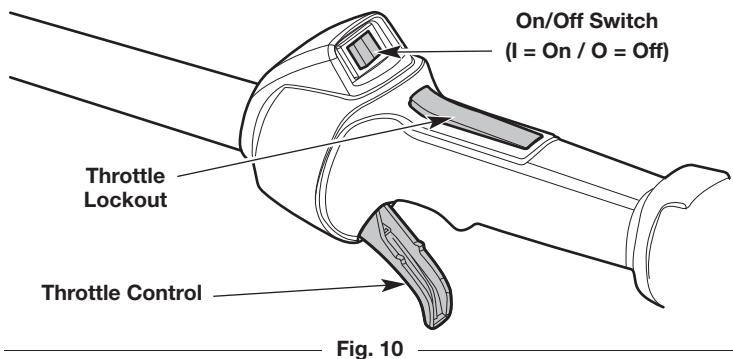

Fig. 10
NOTE: There is no need to turn the unit on. The On/Off switch is in the **On (I)** position at all times (Fig. 10).
NOTE: DO NOT squeeze the throttle control until step 8 (Fig. 10).
8. Press and hold the throttle lockout (Fig. 10). Squeeze the throttle control as needed for operation (Fig. 10).
2. Press and hold the On/Off switch in the **Off (O)** position until the engine comes to a complete stop (Fig. 10).